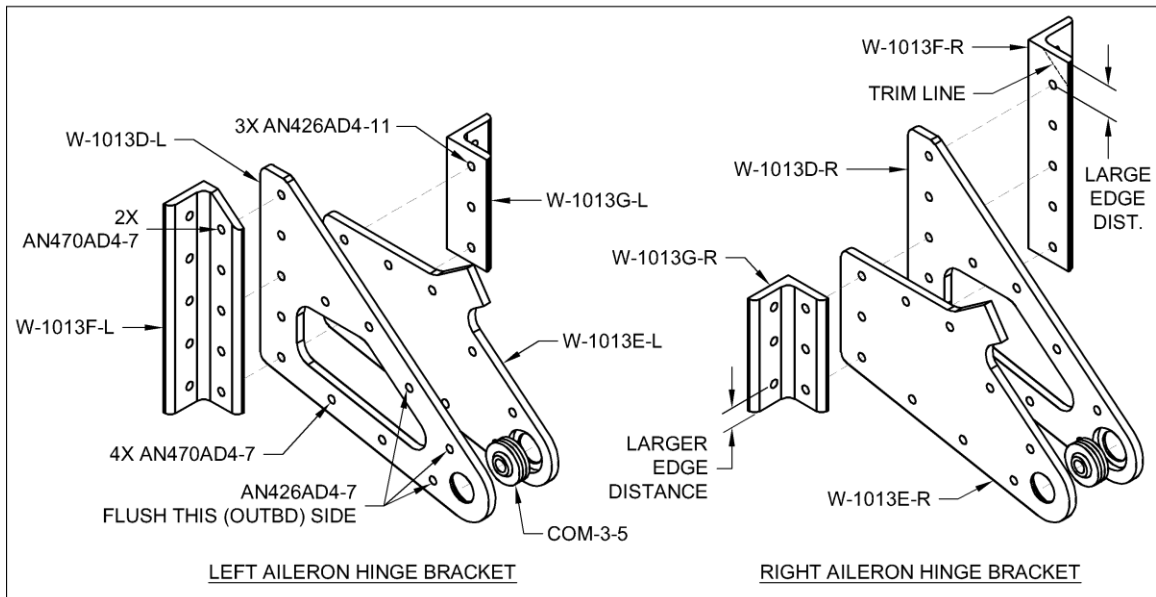

FIGURE 13: AILERON HINGE BRACKETS
Step 21 (RV-10 &14 only): If necessary, straighten the W-1013D & E Aileron Hinge Side Brackets (see Figure 13) as much as possible by clamping the parts in a bench vise and applying firm hand pressure. Sight along the edges to verify straightness and re-adjust as required.
Step 23 (RV-10 &14 only): Cleco together all of the parts shown in Figure 13 for the Left and Right Aileron Hinge Brackets (with the COM-3-5 bearings in place). Be sure to orient the W-1013F Aileron Angle Brackets to place the hole with the larger edge distance at the top, and, as previously noted, orient the W-1013G Aileron Angle Brackets to place the hole with the larger edge distance on the bottom.
Step 25 (RV-10 &14 only): Prime all parts, then cleco the Left and Right Aileron Hinge Brackets back together and rivet them as called out in Figure 13. Set the rivets in a random pattern to inhibit warping.